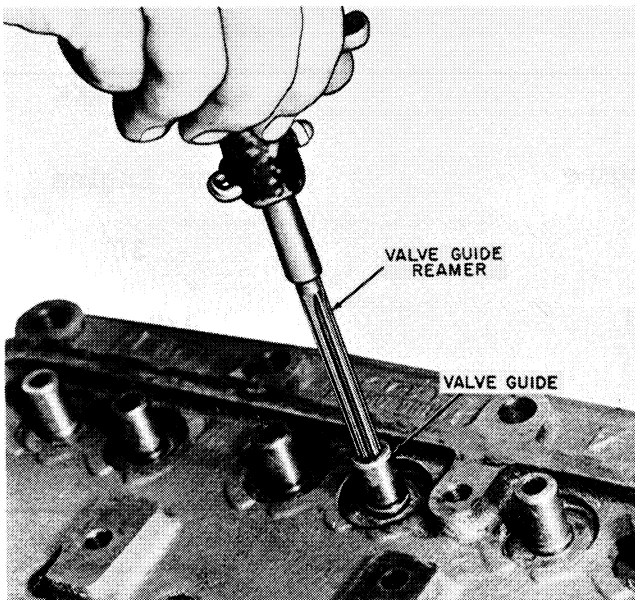

Figure 19 - Valve Guide Reamer
5. After assembly, ream guides to .3422 - .3432 inches. Figure 19.